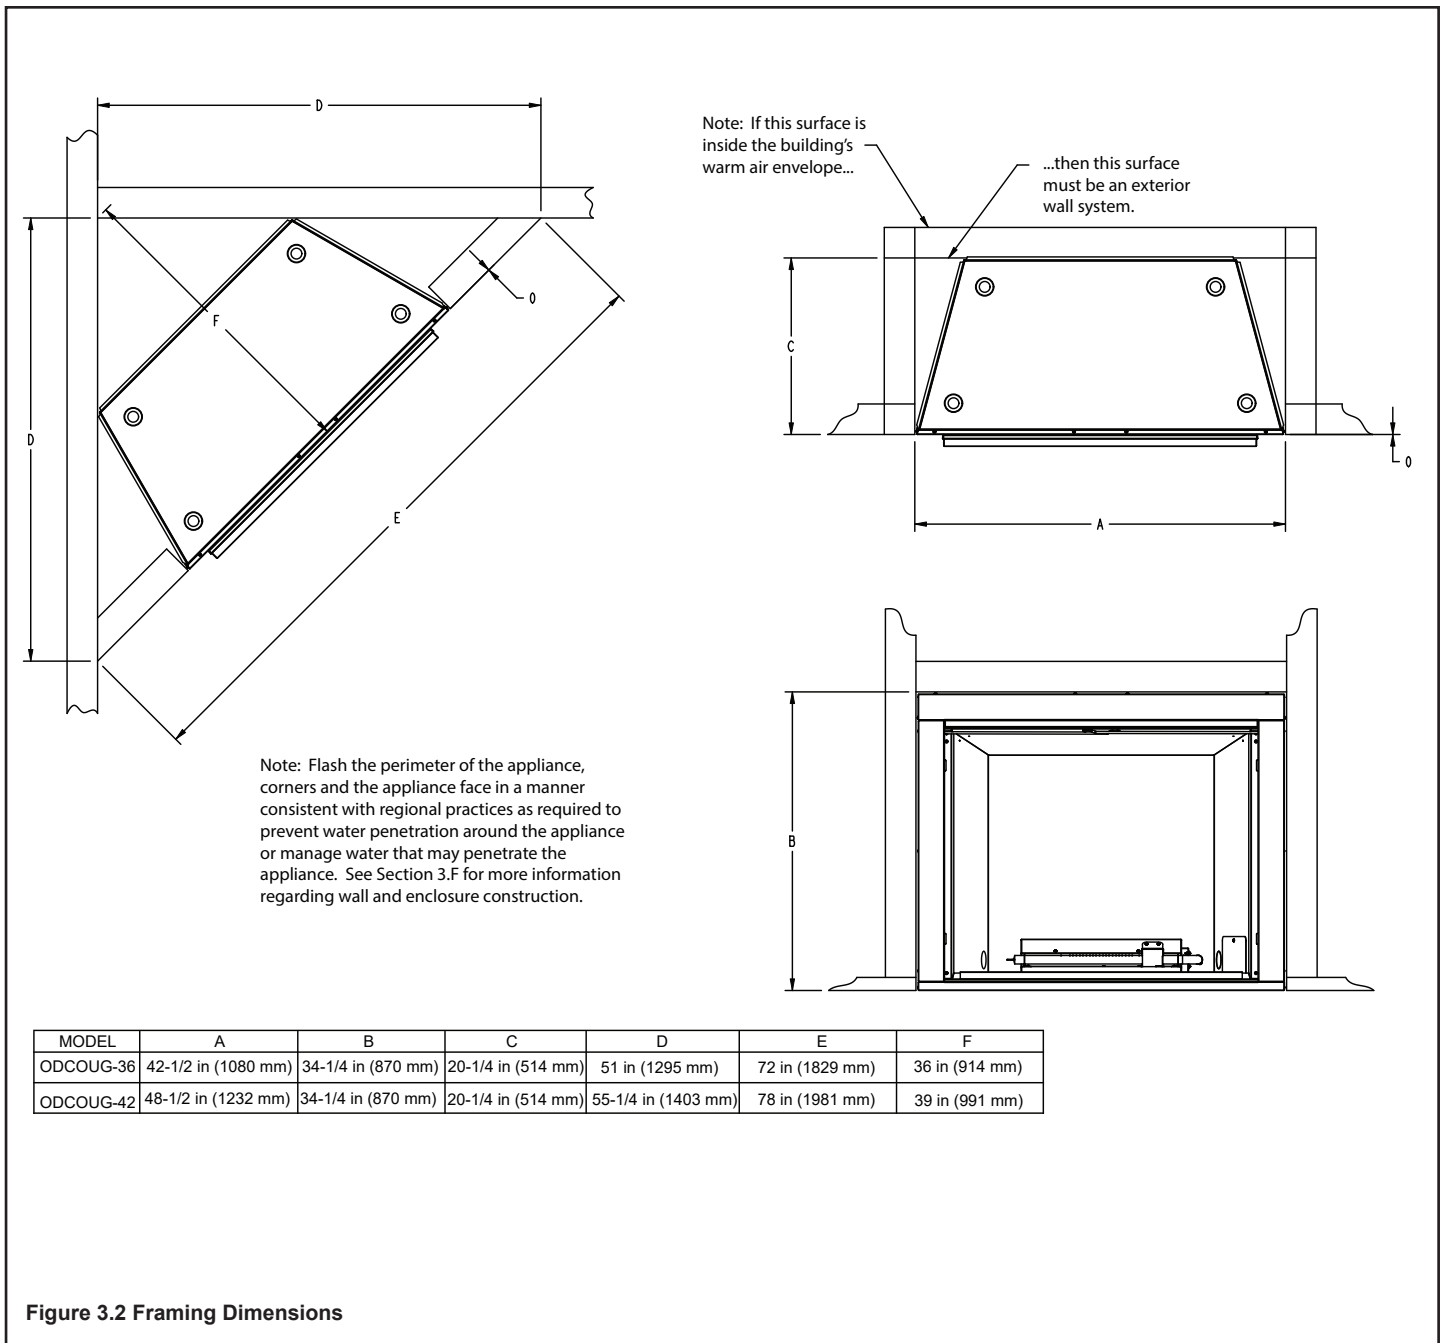
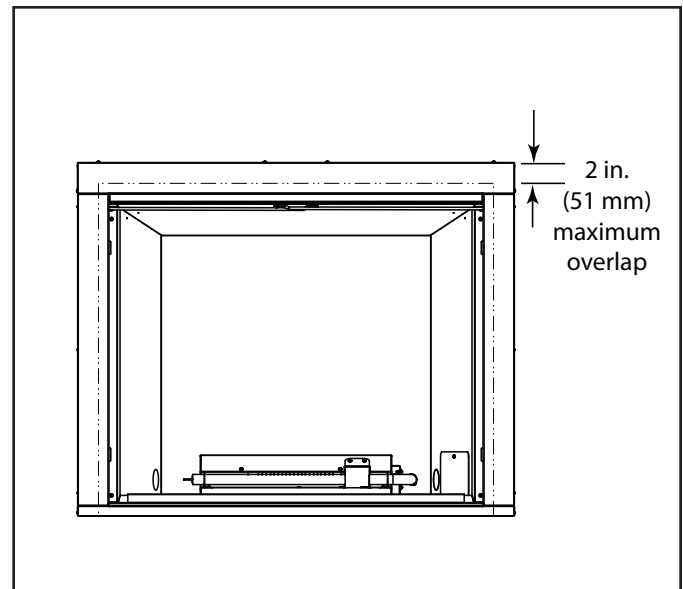

Figure 3.2 Framing Dimensions
Figure 3.5 Membrane Overlap
- See framing measurements in Figure 3.2 and 3.3.
See Section 3B and Figure 3.2 and 3.3 for more information regarding wall and enclosure construction.
A moisture membrane material may overlap and be taped onto the face of the appliance a maximum of 2 inches on the sides and top. See Figure 3.5.
Acceptable method for application of moisture membrane material shown. See Figures 3.5, 3.6 and 3.7.
- See Section 3 and Figures 3.2 and 3.3 for more information regarding wall and enclosure construction required to prevent moisture penetration into the structure. The appliance will shed moderate amounts of water but is not waterproof. See Figures 3.5, 3.6, and 3.7.